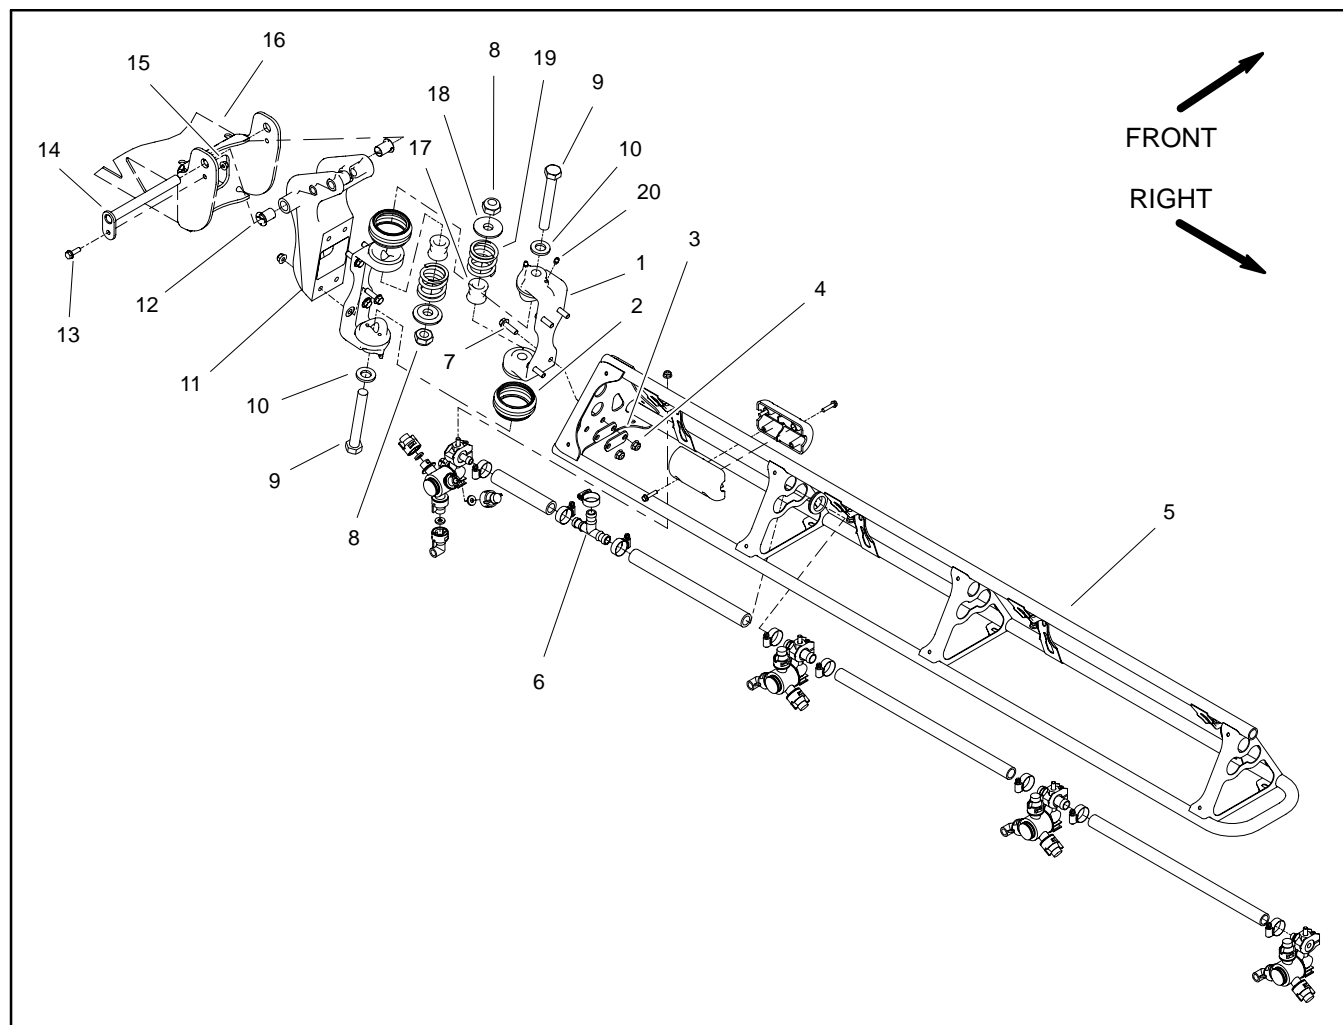

Figure 32
Disassembly (Fig. 32)
2. Loosen hose clamp and remove supply hose from tee fitting (item 6) on spray boom.
4. Loosen two (2) cap screws (item 9) and lock nuts (item 8) to allow breakaway springs (item 19) to fully extend.
5. Complete disassembly boom hinge as required using Figure 32 as a guide. If pivot bracket (item 11) is to be removed from machine, disconnect boom lift cylinder (not shown) from pivot bracket (see Boom Lift Cylinder Removal in the Service and Repairs section of Chapter 4 - Hydraulic System).
Assembly (Fig. 32)